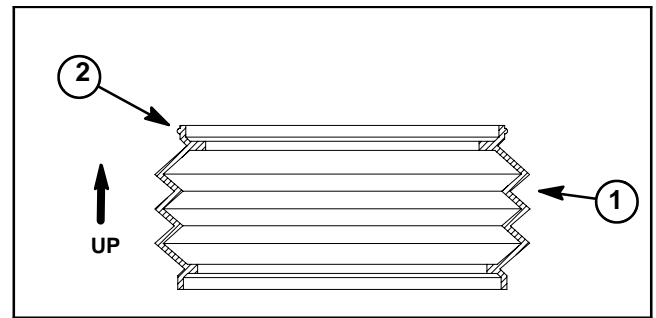
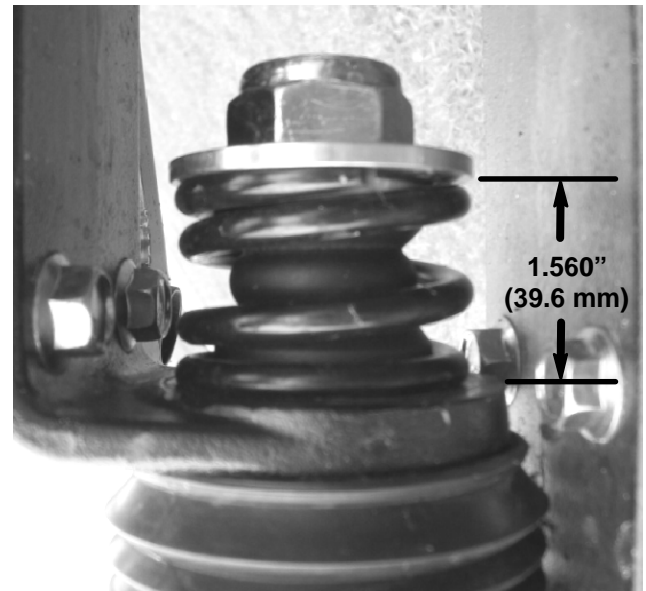

Figure 63
Figure 64
1. If pivot bracket (item 11) was removed from machine, lightly lubricate bushings (item 12) with motor oil before assembly. Connect boom actuator (not shown) to pivot bracket (see Boom Actuator Installation in this section).
2. Make sure that hinges (item 1) are securely fastened to pivot bracket (item 11) and boom (item 5). The boom hinge uses four (4) backing plates between the boom and flange nuts.
3. Position boom hinge to pivot bracket hinge. Make sure that rubber boots (item 2) are placed at hinge junctions and that rib on boots are toward the top of the boom (Fig. 63).
4. Insert two (2) cap screws (item 9) through flat washers (item 10) and hinges. Place tube (item 17), breakaway spring (item 19), spring retainer (item 18) and lock nut (item 8) on each cap screw. Make sure that shoulder on spring retainer fits into breakaway spring.
5. Tighten lock nuts so there is 1.560" (39.6 mm) between the face of the spring retainer and the hinge casting (Fig. 64).